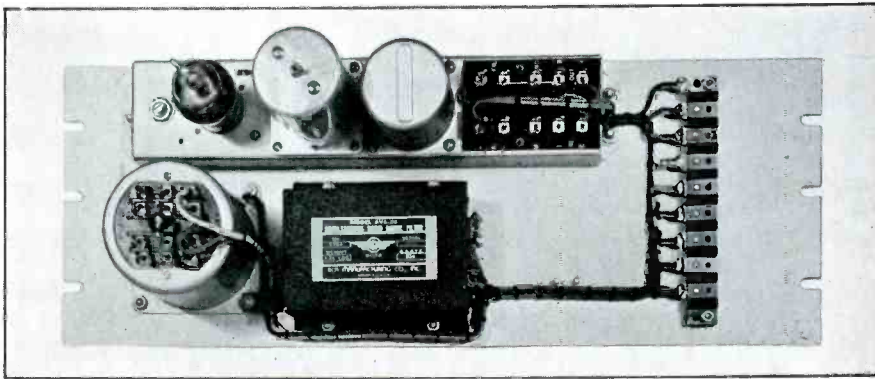

FIG. 4. TONE GENERATOR UNIT SUPPLIES AUDIO FREQUENCY MODULATION
2. **TONE GENERATOR UNIT:** This unit, Fig. 4, supplies a tone signal to the transmitter input line. It is controlled by the code distributors 1 and the control unit 3.